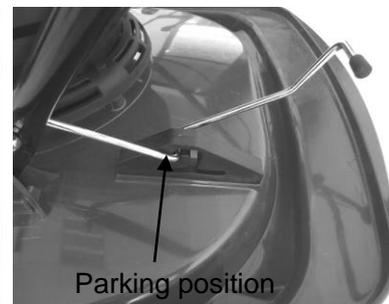

Fig. 2F
4. Lifting the hook to the 'Parked' position. (Fig. 2F)